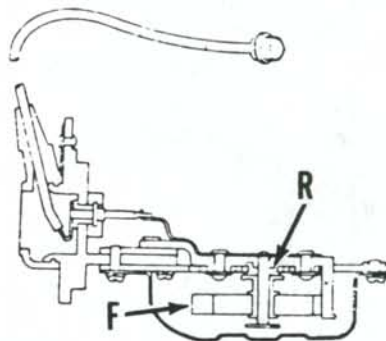

Fig. Y2-8—Cross-sectional view of oil level warning system.
All models are equipped with a low-oil safety system which disables the ignition system and lights a warning bulb when engine oil level is critically low. A float (F—Fig. Y2-8) mounted in the engine crankcase monitors oil level and when the oil level lowers to less than 325 cc (0.34 qt.) on MF180 models or to less than 450 cc (0.48 qt.) on MF260 models, a magnet in the float closes the contacts in reed switch (R) thereby grounding the ignition and lighting the oil warning light.